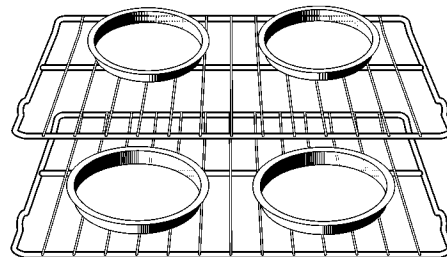

Figure 17: Pan spacing for best results
- When placing multiple food items in the oven allow 2 - 4 inches (5-10cm) of space between the food items for proper air circulation.(Figure 17).